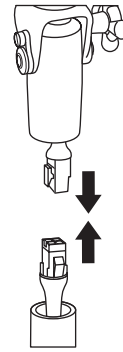

FIGURE 4
16. Connect the plugs coming from the bottom of the Motor Mount and the top of the Telescoping Pole. See Figure 4.